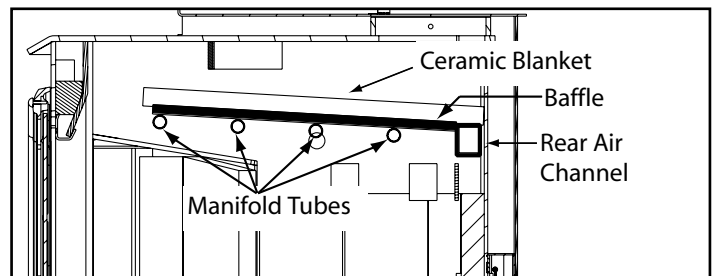

Figure 25.1
- Confirm the baffle is correctly positioned. It should butt up against the rear air channel. **Figure 25.1.**